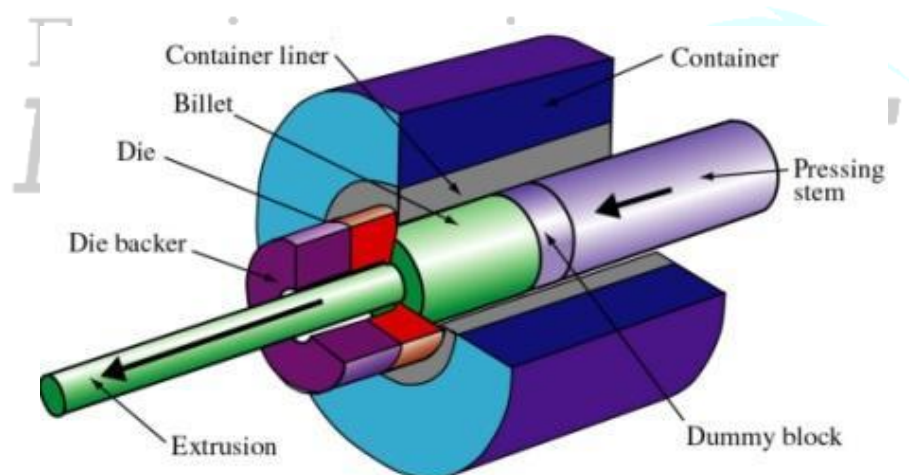

Figure 2 - Direct extrusion (source: Kalpakjian & Schmid)
**Direct Extrusion**, sometimes called Forward Extrusion is the most common type of extrusion. The process as shown in figure 2 below, begins by loading a heated billet (only for hot extrusion, discussed later) into a press cavity container where a dummy block is placed behind it. Then the mechanical or hydraulic ram presses on the material to push it out through the die. Then, while still hot, the part is stretched to straighten. This process is beautifully animated by Core Materials.
In **Indirect Extrusion**, the die is located at the end of the hydraulic ram and moves towards the billet inside the cavity to push the material through the die. This is illustrated in figure 2 below.